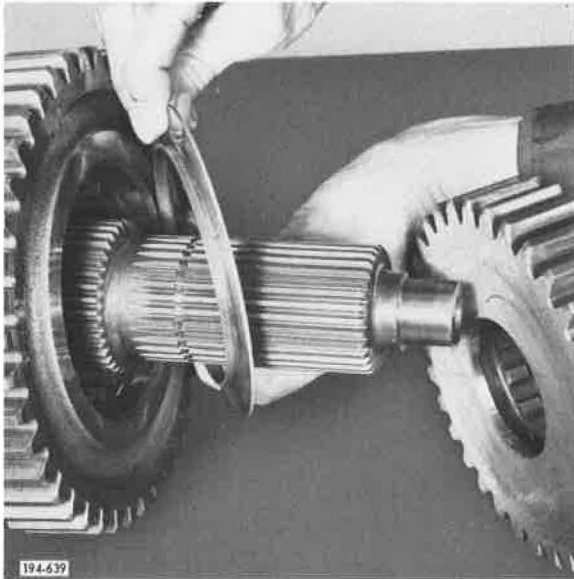

Figure 121. Removing Gear and Washer
6. Remove fourth speed gear and third speed gear flanged thrust washer. See Figure 121.